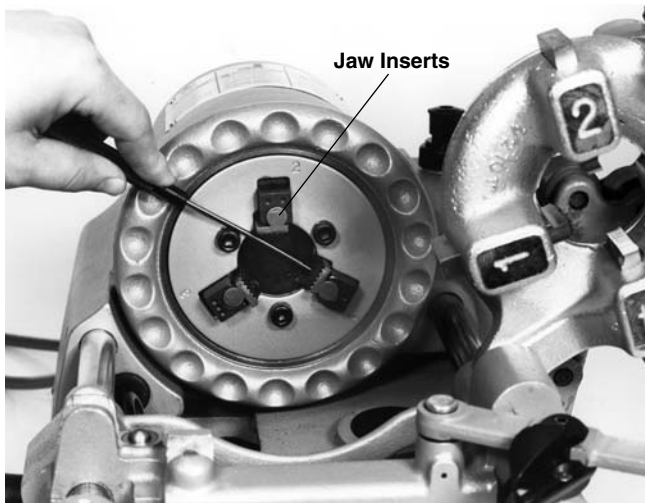

Figure 16 – Replacing Jaw Inserts
- To remove jaw insert – place punch into spring detente slot of jaw insert and push down. (Figure 16)